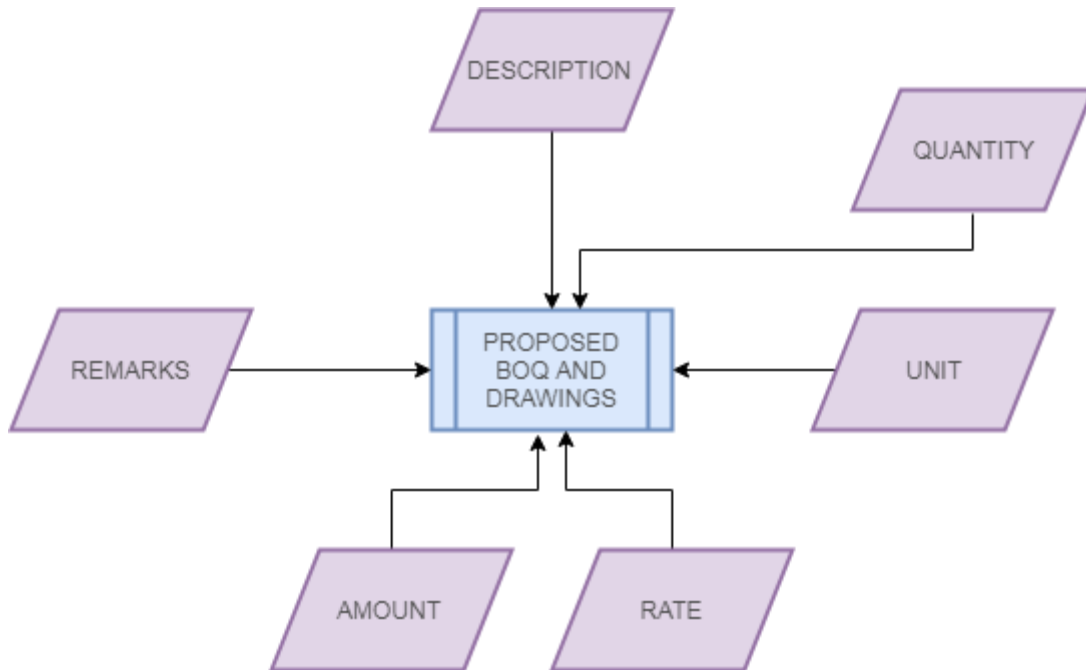

Figure 2.15
2. The BOQ can be provided by the clients, by Company itself that is company's engineers and architects creates the BOQ and drawings or sometimes they ask the Company to buy from the destined points. This BOQ is known as **Proposed BOQ and Drawings (refer Figure 2.15)**. The BOQ sent from client can have the following fields, description, quantity, unit, rate, amount, remarks (if from army can also include MES) will be incorporated in creating a BOQ (Not limited and confined to these fields). Furthermore, IRN and rates will be added from SINACO's side.